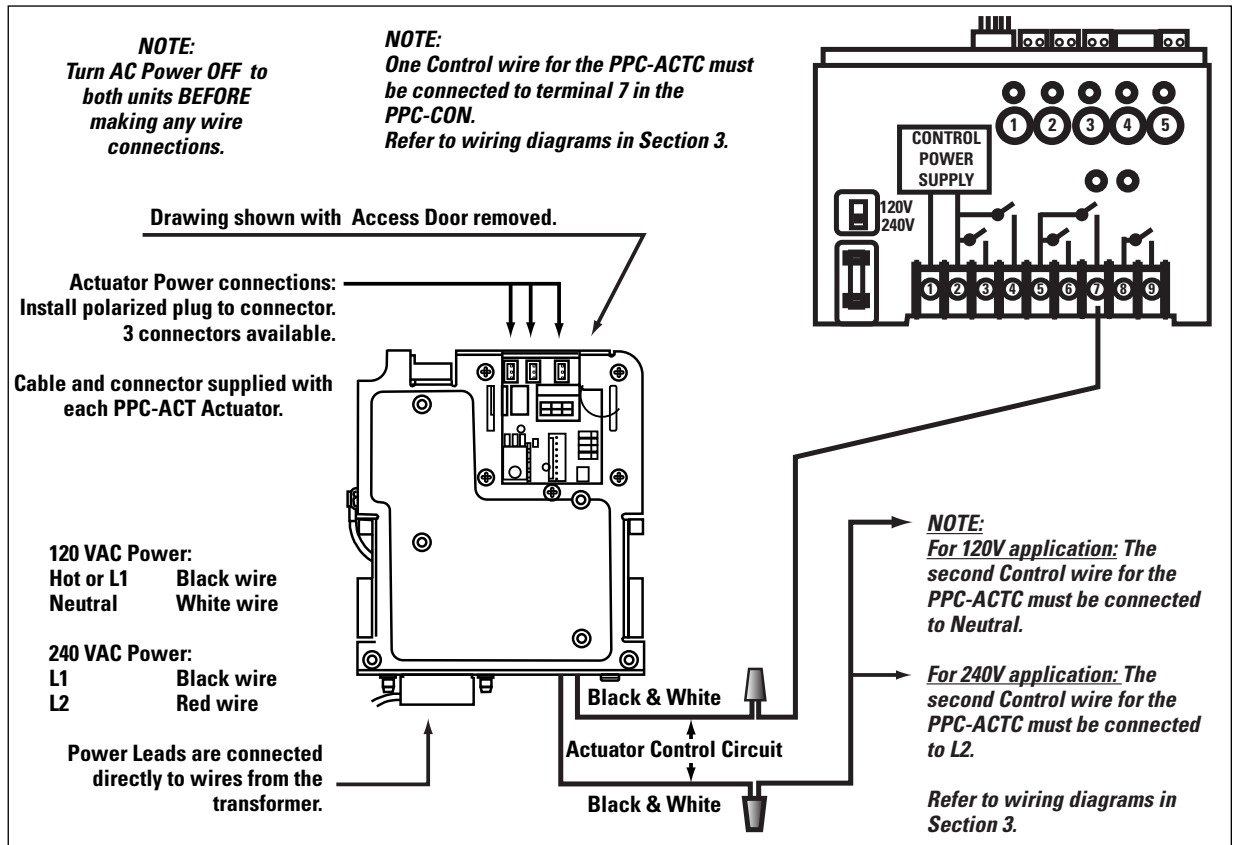

Figure 3-25
The actuators must be installed to automatically rotate your valves between the pool and spa plumbing. The 24 VAC power for the Valve Actuators is produced by a transformer in the PPC-ACTC. All power to both units must be turned OFF when connecting the black and white actuator control leads to the PPC-CON (see Figure 3-25). Refer to the installation and wiring directions for the PPC-ACTC Actuator Control and PPC-ACT Actuators for additional instructions for each unit. Remove power from the PPC-ACTC and the Commander Receiving Device.
5. Connect 120 or 240 VAC power leads to the correct colored wires of the PPC-ACTC transformer (see Figure 3-25).
6. Connect the two Actuator Control wire leads as shown above Figure 3-25.